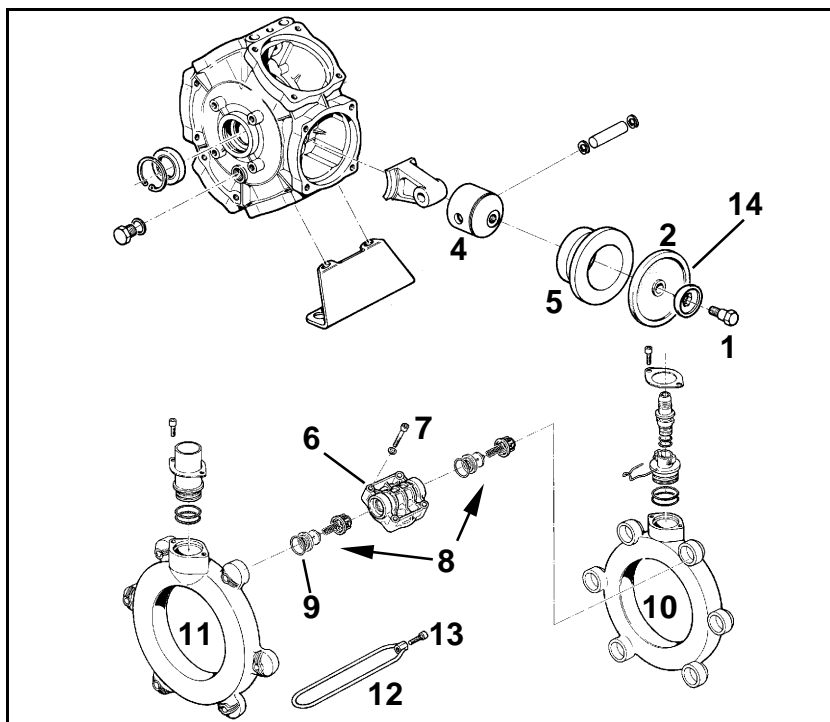

Fig. 222
- Fasten the piston diaphragm (Fig. 222/2) in such a way with the retaining disc (Fig. 222/3) and bolt (Fig. 222/1) to the piston (Fig. 222/4) so that the edge (Fig. 222/14) shows towards the cylinder head side (Fig. 222/6).
- Tighten bolts (Fig. 222/1) diagonally with the torque stated. Inaccurately tightened bolts will cause tensioning and thus leakage.
1. Slacken the bolt (Fig. 222/1) and remove the piston diaphragm (Fig. 222/2) together with the retaining disc (Fig. 222/3) of the piston (Fig. 222/4).
3. Remove the cylinder (Fig. 222/5) from the pump housing.
6. Move the cylinder (Fig. 222/5) again into the pump housing.
7. Fit the piston diaphragm (Fig. 222/2).
8. Fit cylinder head (Fig. 222/6) to pump housing and tighten bolts (Fig. 222/7) cross wise and equally.
9. Mount the valve groups (Fig. 222/8) after checking and cleaning.
10. Fit new O-rings (Fig. 222/9).
11. Re-install suction (Fig. 222/10) and pressure channel (Fig. 222/11) to the pump housing and refit the tensioning clamp (Fig. 222/12).
12. Tighten the bolts (Fig. 222/13) always diagonally with a torque of **11 Nm**.